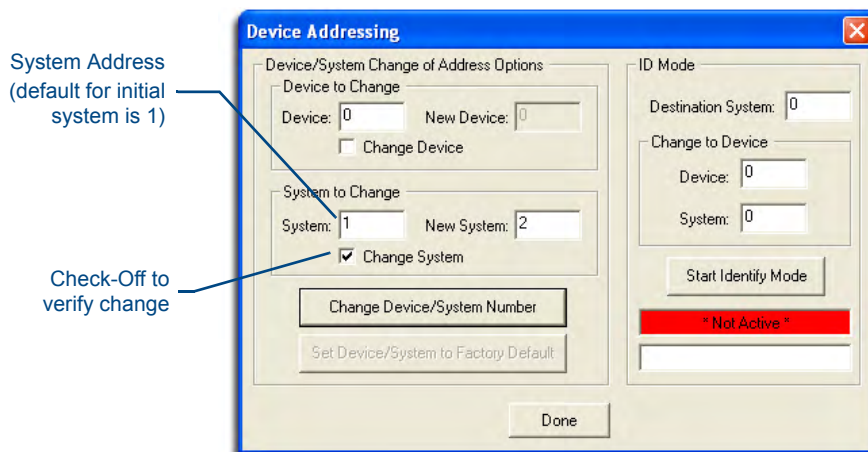

FIG. 16 Device Addressing tab (changing the system value)
- Access/open the Device Addressing dialog (FIG. 16) by either one of these two methods: